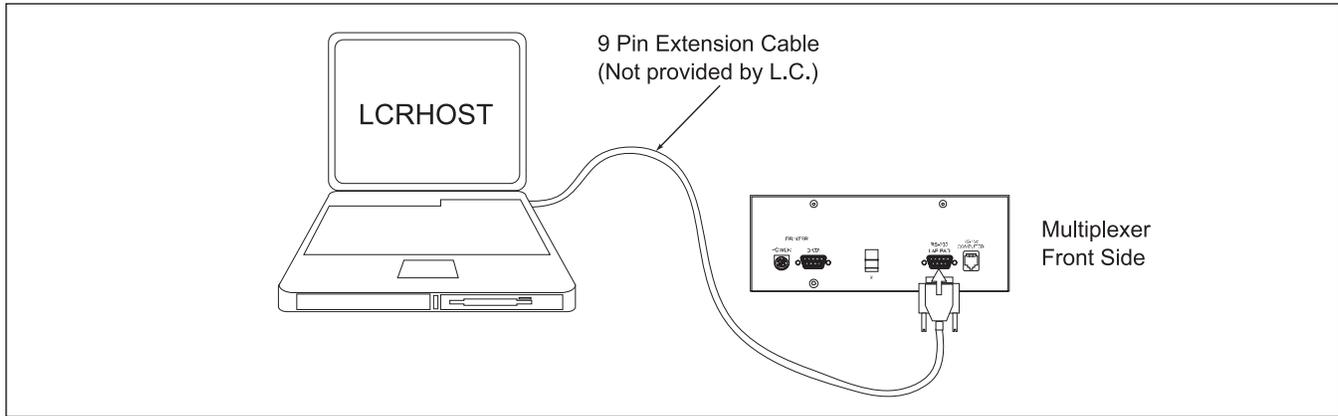

Figure 1.8 Connecting a Laptop Computer
- 1- Power up the system and run the LCRHOST program on the computer. Make sure the communication cable is connected as indicated on figure 1.8. If this is the first time using the LCRHOST program, "LCR#0 NOT FOUND" will be displayed. This is normal since communication has not been established.